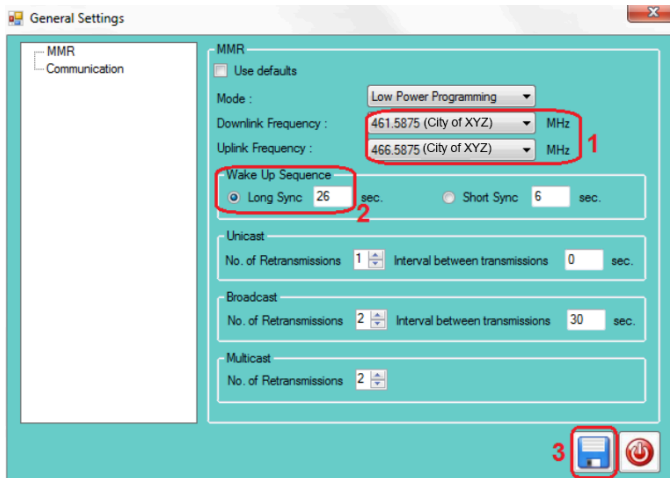

Figure 17
9. In the **Settings** window ensure the following (see figure 17);